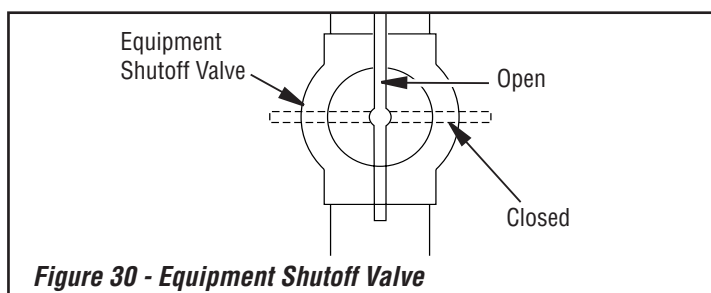

Figure 30 - Equipment Shutoff Valve
1. Close equipment shutoff valve (*see Figure 30*).
1. Open equipment shutoff valve (*see Figure 30*).